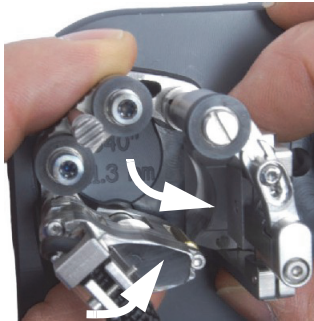

Figure 2-18 Rotating the tail to set position for a small pipe setup
- c) Swing the probe-holder assembly outward until the probe and wedge can slide back into the through hole (see Figure 2-18 on page 44).
- e) Rotate the tail inward, as far as possible, so that the tail wheel is positioned closest to the center of the setup pattern (see Figure 2-18 on page 44).